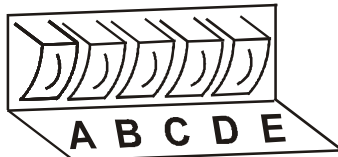

Figure 4.1. 101009
8. Fill the soap hoppers (Figure 4.1).